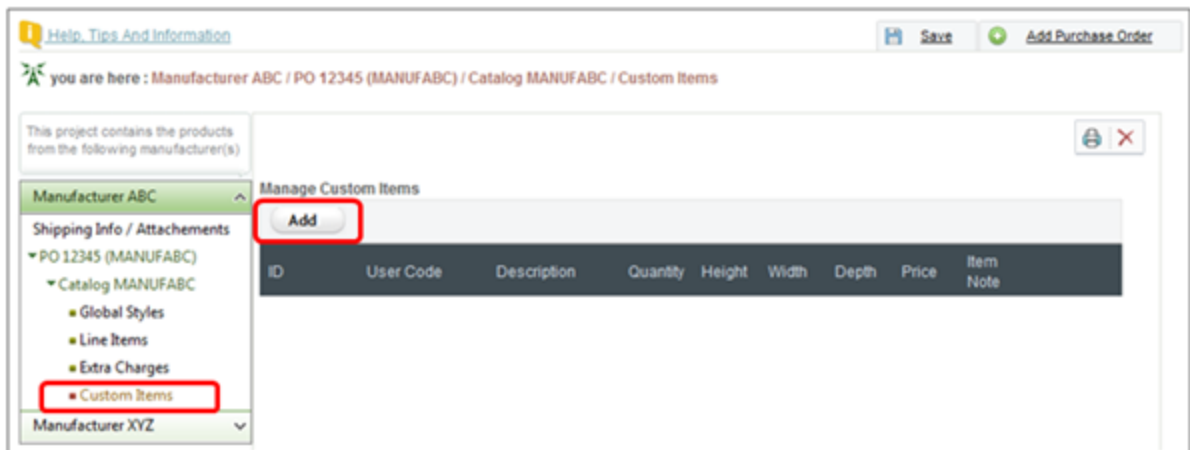

Figure 92: Custom Items
Clicking on the “*Custom Items*” link under any purchase order’s catalog, in the left frame of the screen (**Figure 92**), will display the *Custom Items* screen, from where you can click the “*Add*” button to manually add any non-2020 catalog items or any custom items to the PO.
1. Click on the “*Add*” button in the Custom Items screen (**Figure 92**)